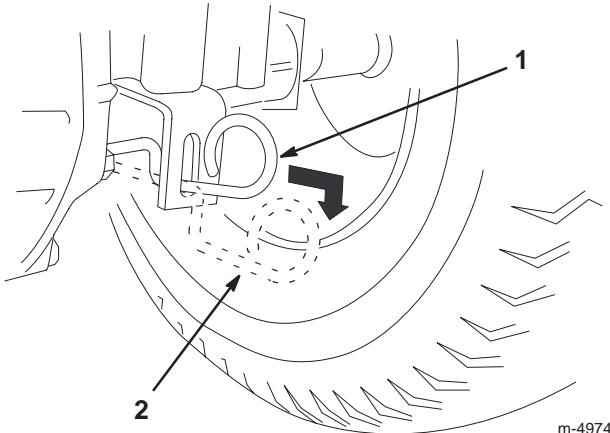

Figure 12
4. Pull the drive control out to the Push position (Fig. 12).
**Note:** This disengages the drive system and allows the wheels to turn freely (Fig. 12).
Push the drive control in to the Operate position (Fig. 12).